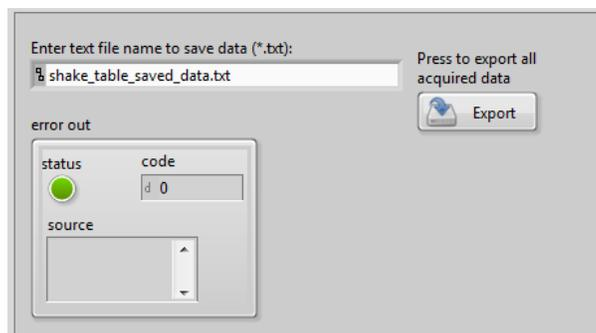

Figure 2.7: Exporting data to Excel
- (a) Click on the *Export* button shown in Figure 2.7 **before running the software**.